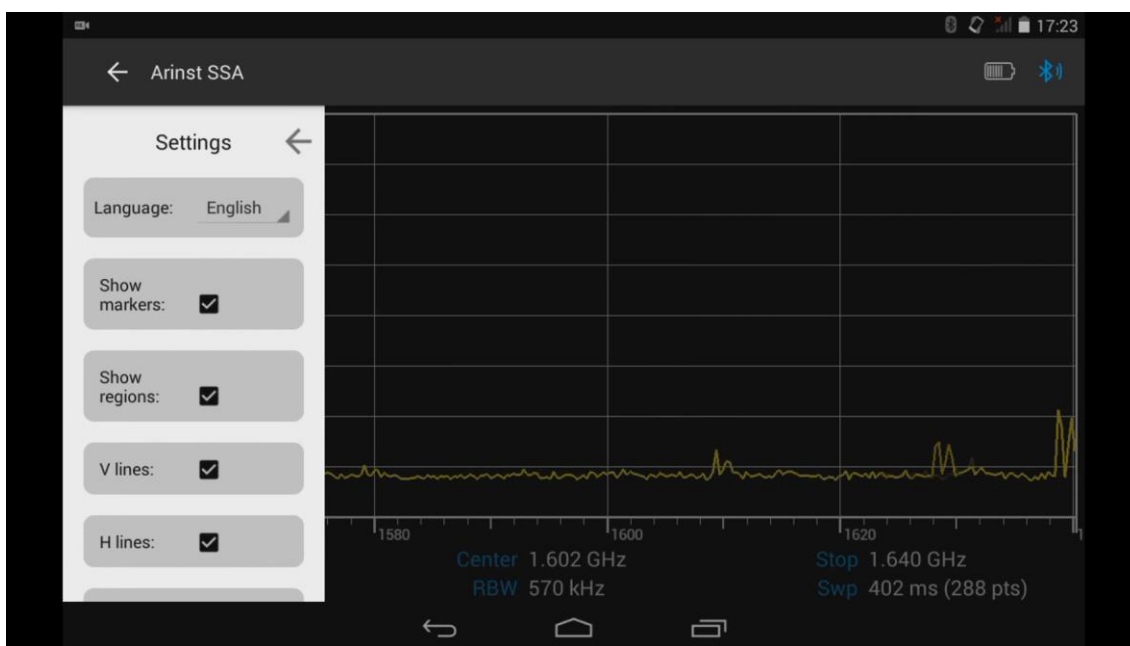

Figure 62 – Settings menu
8.10.1. From the main menu of the control program, enter the **Settings** menu, as shown in Figure 62.